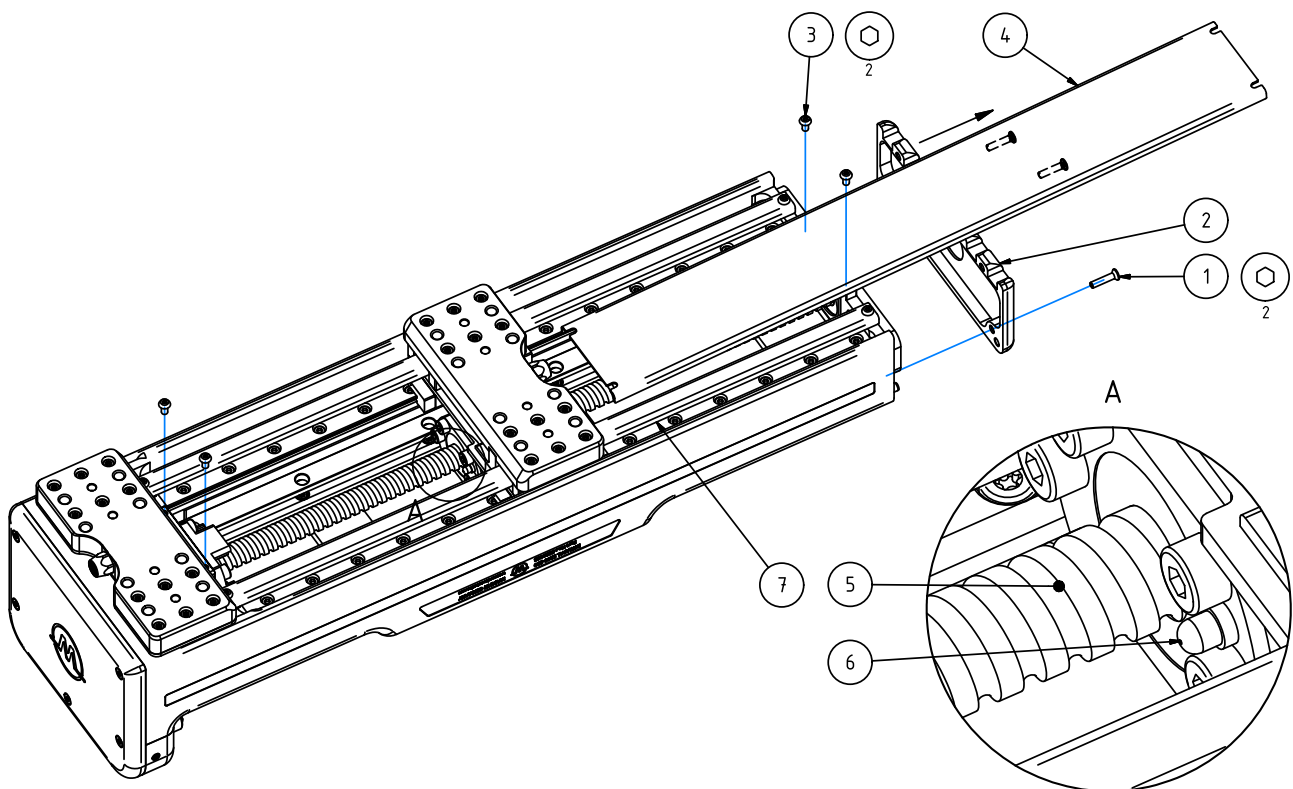

Figure 40: Removing the cover and lubricating the ball screw drive
3. Unscrew the three screws (1) and remove the side cover (2) as shown in Figure 40. Use the hexagonal screwdriver from the accessory kit.
4. Unscrew the four screws (3) and remove the top cover (4).
5. If the ball screw drive (5) is dirty or you suspect that there are foreign objects in it, first clean it with a dry, lint-free cloth.
6. Place a grease gun on the NZ 3 grease nipple (6) and press the lubricant into the lubrication unit.
7. Install the covers (4) and (2) and move the gripper at least once over the entire stroke to distribute the lubricant evenly.